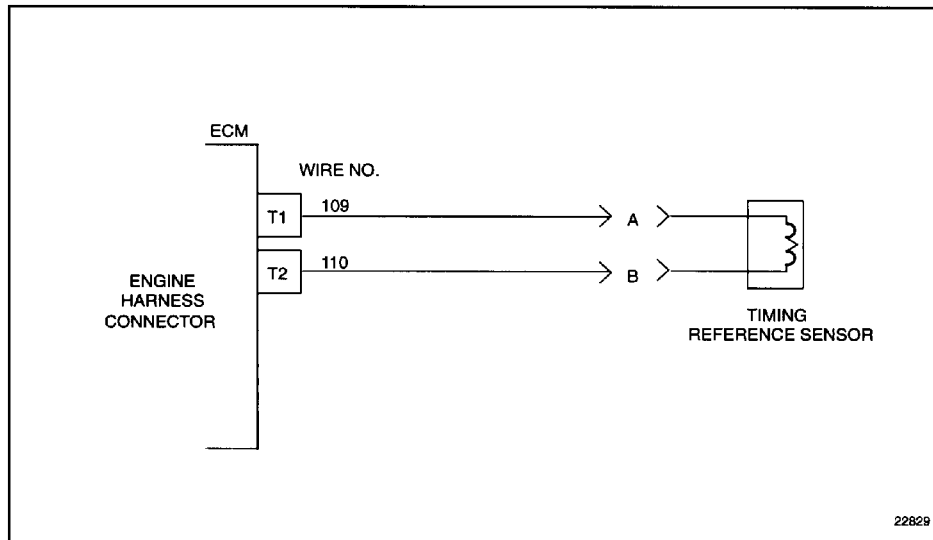

Figure 41-3 Engine Harness Connector to Timing Reference Sensor
2. Measure resistance between sockets T1 and T2 on the engine harness connector. See Figure 41-3.